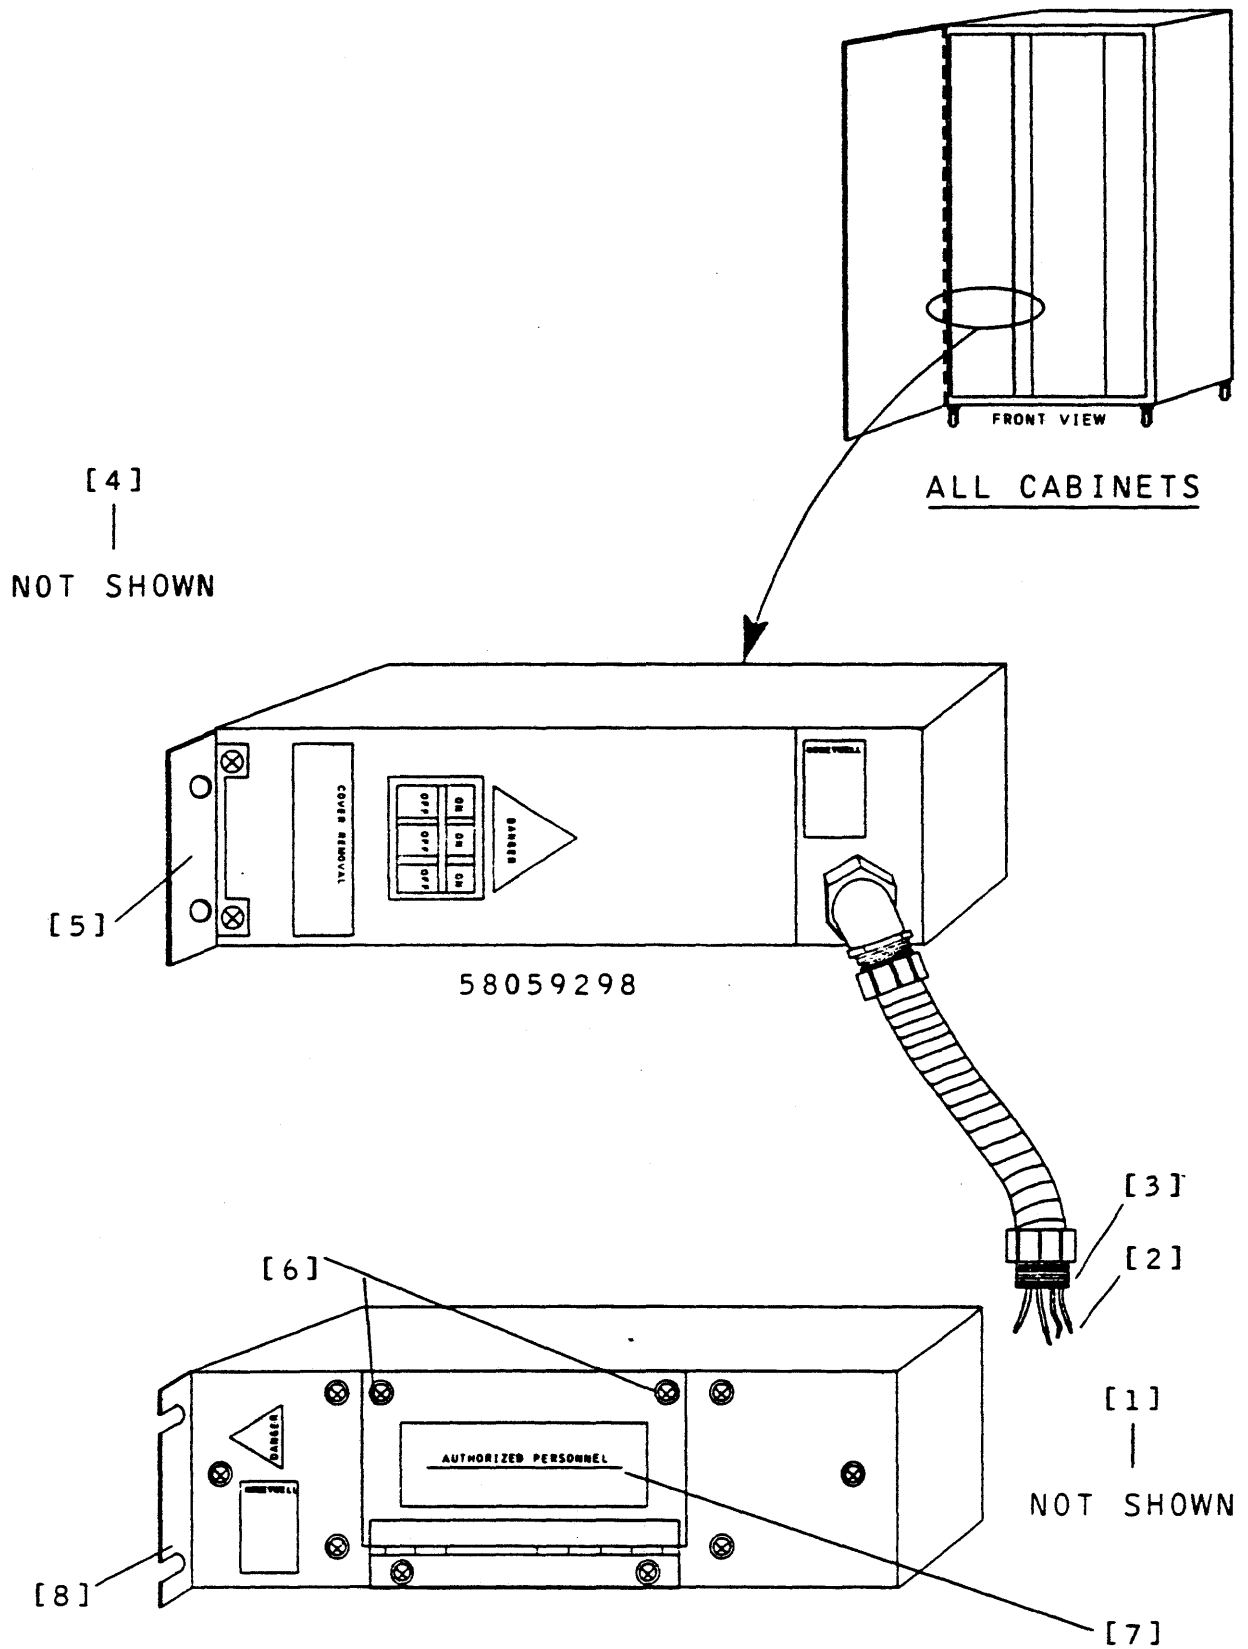

FIGURE 2.13-1. CIRCUIT BREAKER MODULE REMOVAL/INSTALLATION
7. Using cross-tip screwdriver, remove cabinet input power S01 junction box cover (Figure 2.13-1, [1]).
8. Using cross-tip screwdriver remove power cable lead securing hardware (Figure 2.13-1, [2]).
9. Using spanner, remove conduit securing hardware and remove conduit and wiring from S01 junction box (Figure 2.13-1, [3]).
10. Using cross-tip screwdriver, remove air pressure switch retaining hardware and position switch to allow circuit breaker module removal (Figure 2.13-1, [4]).
11. Using cross-tip screwdriver, remove circuit breaker module's front retaining hardware (Figure 2.13-1, [5]).
12. Using cross-tip screwdriver, open rear compartment cover (Figure 2.13-1, [6]).
13. Using ratchet and socket, disconnect filter power and ground lead connections (Figure 2.13-1, [7]).
14. Using a cross-tip screwdriver, loosen rear retaining hardware (Figure 2.13-1, [8]).